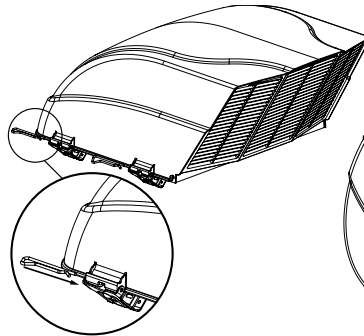

Figure 5
1. Install two (2) brackets to one side of the **FANMATE®** using two (2) of the **EZClip™** pins provided. See Figure 5.